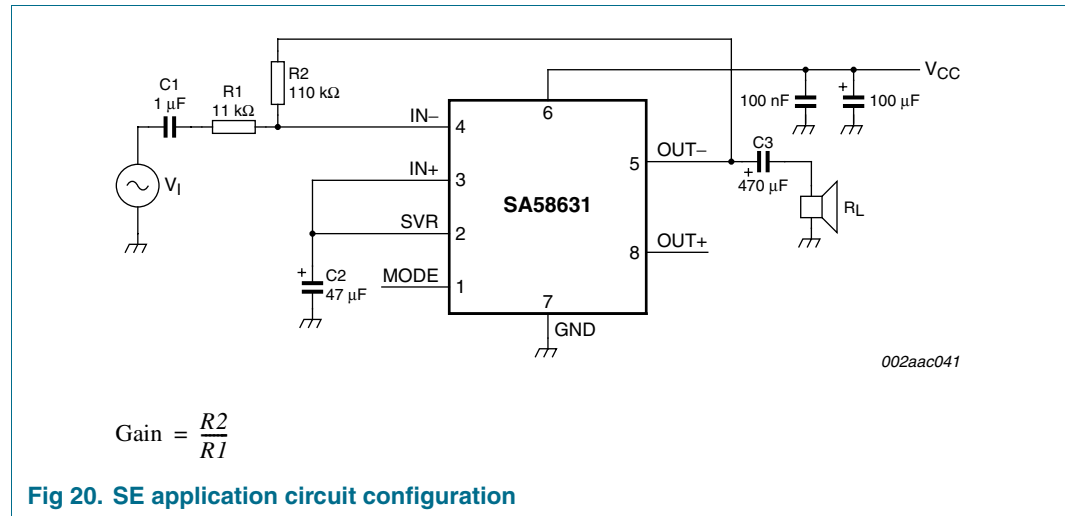

Fig 20. SE application circuit configuration
The Single-Ended (SE) application diagram is shown in Figure 20.
The application demo board may be used for evaluation in either BTL or SE configuration as shown in the schematics in Figure 3 and Figure 20. The demo PCB is laid out for the 5 square inch heat spreader (total of top and bottom heat spreader area).